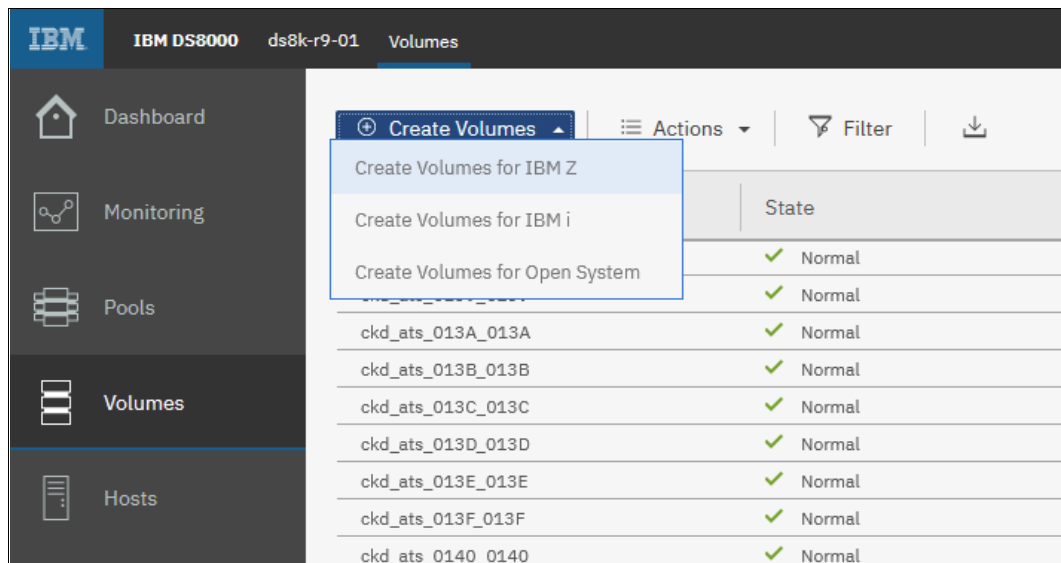

Figure 9-47 Create Volumes dialog
3. From this view, click **Create Volumes**. The Create Volumes dialog opens, as shown in Figure 9-47.
1. From the **Create Volumes** drop-down menu (Figure 9-47 on page 279), click **Create Volumes for Open Systems**.